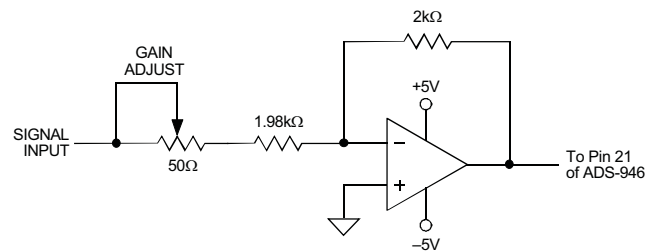

Figure 2. Optional ADS-946 Gain Adjust Calibration Circuit
2. The ADS-946 achieves its specified accuracies without the need for external calibration. If required, the device's small initial offset and gain errors can be reduced to zero using the adjustment circuitry shown in Figures 2 and 3. When using this circuitry, or any similar offset and gain calibration hardware, make adjustments following warmup. To avoid interaction, always adjust offset before gain.
Any offset and/or gain calibration procedures should not be implemented until devices are fully warmed up. To avoid interaction, offset must be adjusted before gain. The ranges of adjustment for the circuits in Figures 2 and 3 are guaranteed to compensate for the ADS-946's initial accuracy errors and may not be able to compensate for additional system errors.